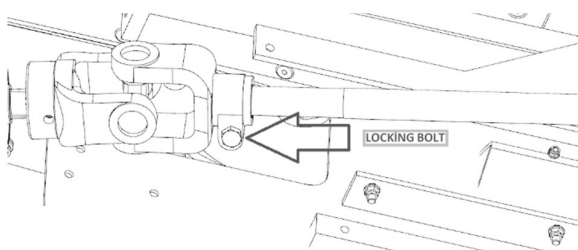

Figure 43 Locking Screw
- Shaft is removed by locking bolt is taken off (Figure 43)